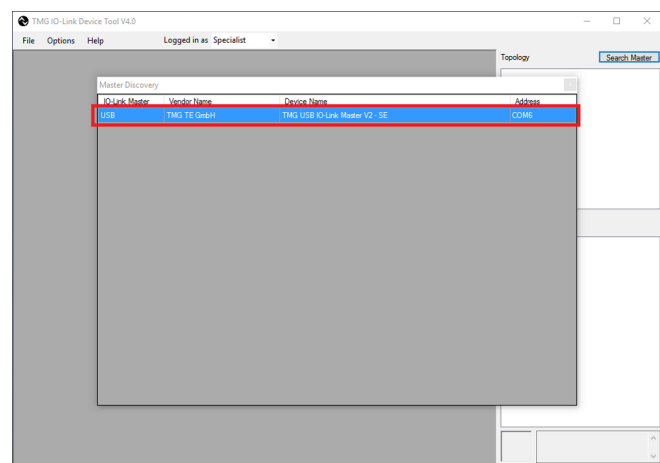

图 13. IO-Link Master GUI 2
2. Double-click in the pop-up window on the IO-Link master, which is connected to the system. Typically, this is only one entry as long as only one IO-Link master is connected to the PC (see 图 13).